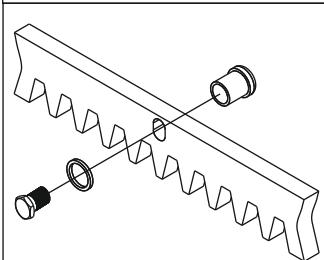

Fig. 16
- b) Fix on each gear rack element the support pawls with the appropriate lock screws, making sure to put them in the upper part of the hole (Fig. 16);